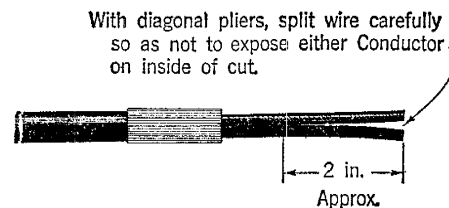

Fig. 3
2.03 Split the insulation between conductors to separate them as shown in Fig. 3.